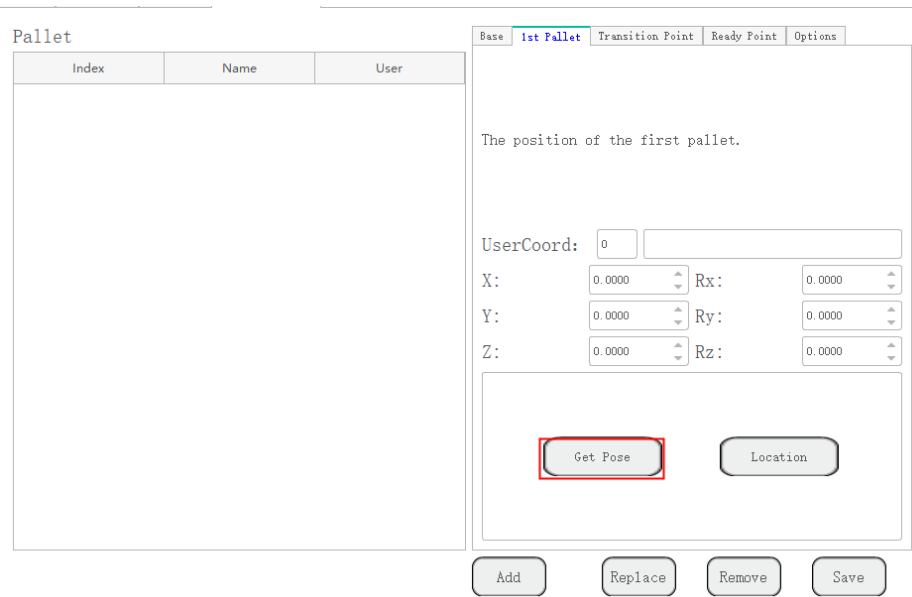

Figure 3.28 Teach the first stack position
Step 3 Jog the robot to the first stack position and click **Get Pose** on the **1st Pallet** tab, as shown in Figure 3.28.